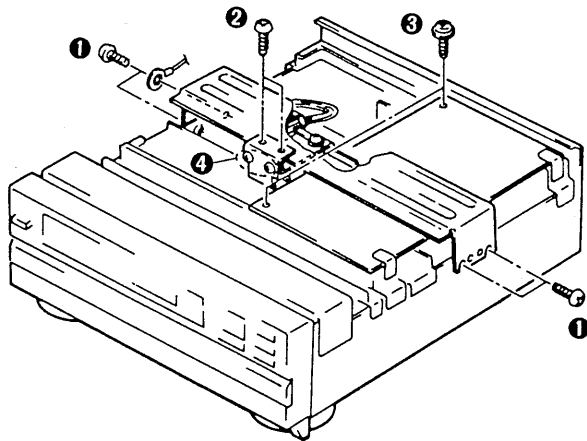

Fig. 1
1. Remove four screws which fasten both sides of reinforcement. (L, center part of chassis.) (Figure 1-①)
2. Remove two screws which fasten the reinforcement (SB) to the reinforcement. (Figure 1-②)
Note-1 Do not remove the two screws of figure 1-④ since the installation location might be shifted.
3. Remove two screws (Figure 1-③) which fasten the main board.